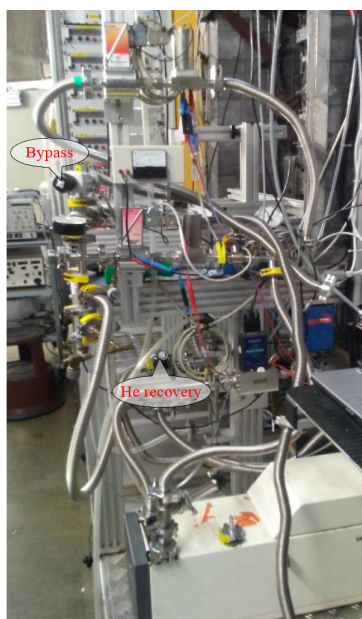

Figure 3.2: The LEM pumping system.
2. Stop He pumps and open the He recovery valve between the pump and the He recovery system, see Fig. 3.2.